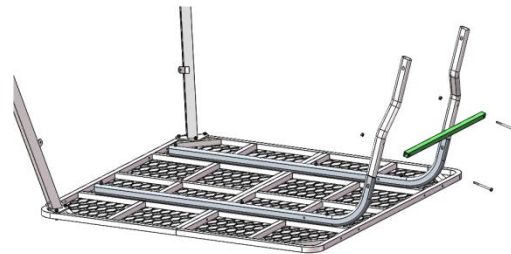

Figure 8
Step 8: Attach the ladder step (TS305.19) to the two ladder extension tubes (TS305.20) by using two 1/4"-20×3" bolts (48275B) and two 1/4" lock nuts(48752B). Leave these hand tight for now (**Figure 8**).